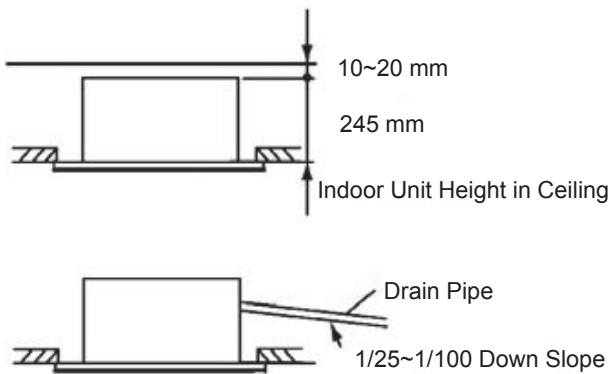

Fig. 4.2 Installation Location of Indoor Unit
- (1) Select appropriate location and direction for installation of indoor unit, and determine its location. Pay careful attention to the space for the piping, wiring and maintenance.
- (2) Cut out the area for the indoor unit in the false ceiling and install suspension bolts, as shown in Fig. 4.2.